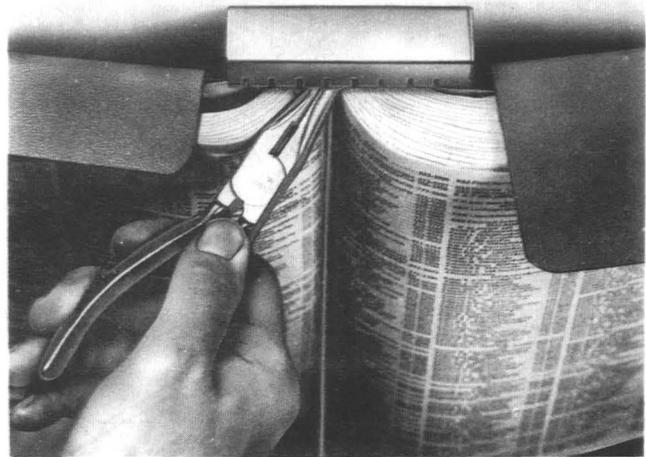

Fig. 25—Removing KS-21435, List 11 Support Rod
- 3.13 To remove support rods, refer to Fig. 25 and use long-nosed pliers.